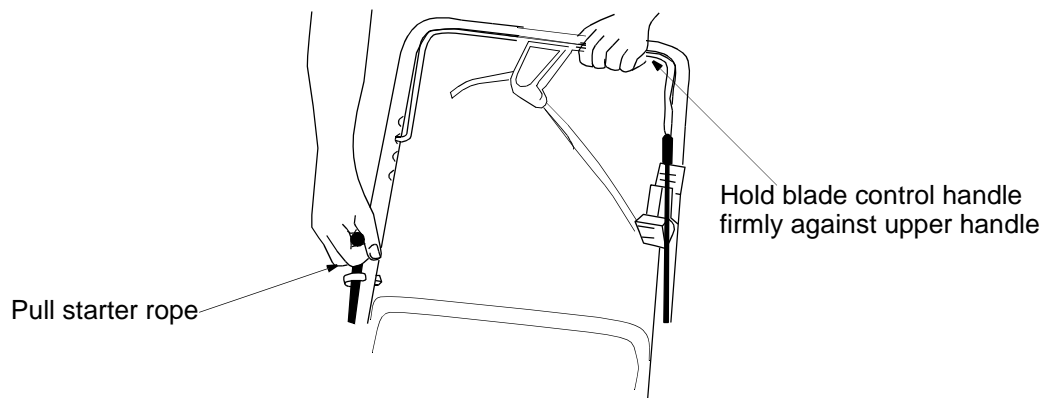

Figure 13
- Pull rope with a rapid, continuous, full arm stroke. Keep a firm grip on recoil starter. Return it slowly to the rope guide. See Figure 13.